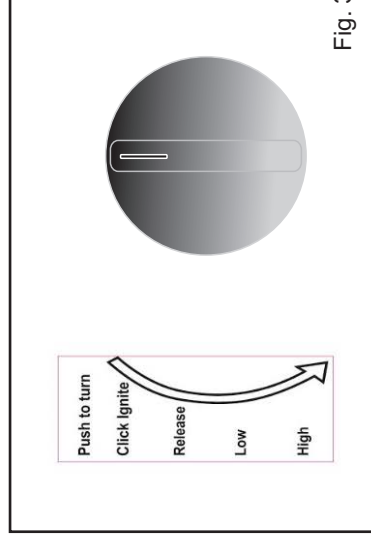

Fig. 3
- This appliance is fitted with an Oxygen Depletion Sensor for your safety (See Fig 3). Its function is to shut down the gas supply to the appliance in the event of a burner flame out or other malfunction. **Do not interfere with or remove or modify this device.**
- The appliance is fitted with a Piezo Ignitor built into the control valve which automatically ignites the gas grate when the control valve knob is turned to the 'ignite' position and does not require the use of a lighter or matches to light it (see Figs 3 & 4)